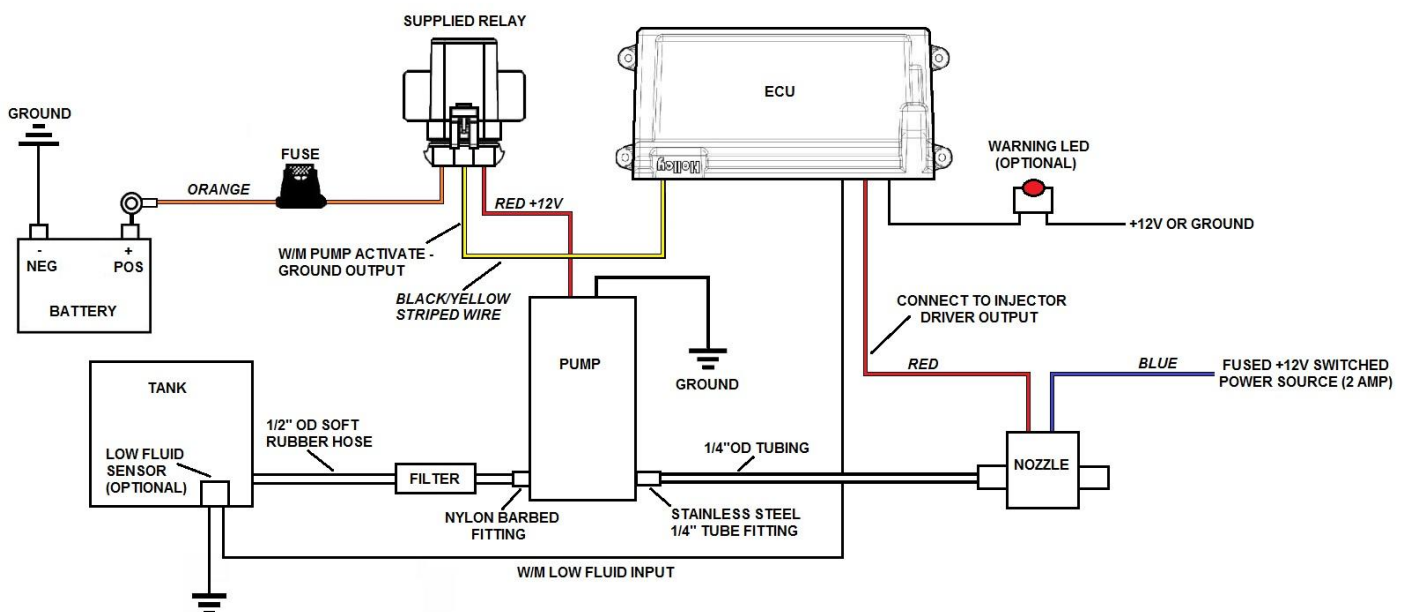

Figure 2 – Electrical Wiring
Figure 2 shows how to wire the system.
**Water Meth Manual Enable Input** – This is not show on Figure 2 below. If you want to have a switch what allows for the W/M to be disabled, select the “Enable Manual Activation” in the software. Configure this input as GROUND or +12V. Run a ground or 12V through a toggle switch accordingly, and run it into this pin configured for this input. When the switch is off, W/M injection will not occur. When the switch is turned on, injection will occur.